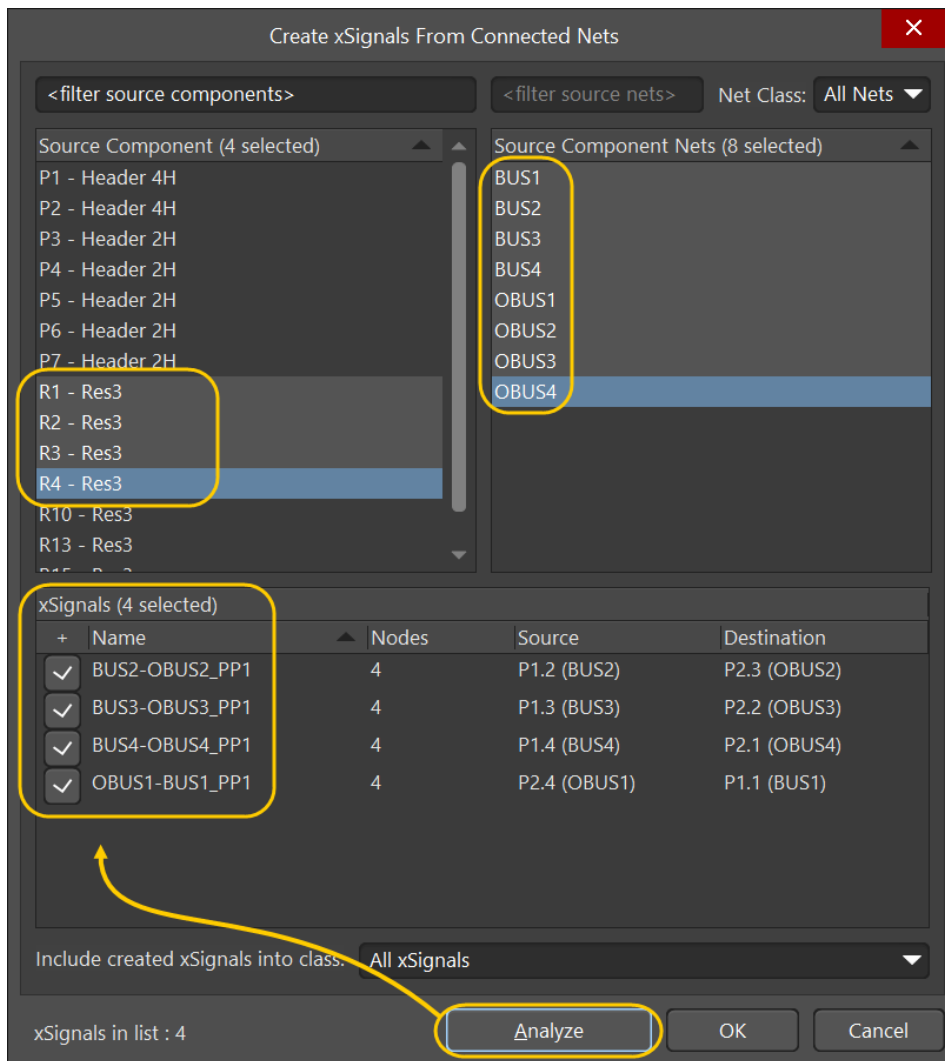

Figure 6. Dialog to create xSignals between components
10. In the *Create xSignals From Connected Nets* dialog that appears, use Figure 6 below to help you with the following instructions: